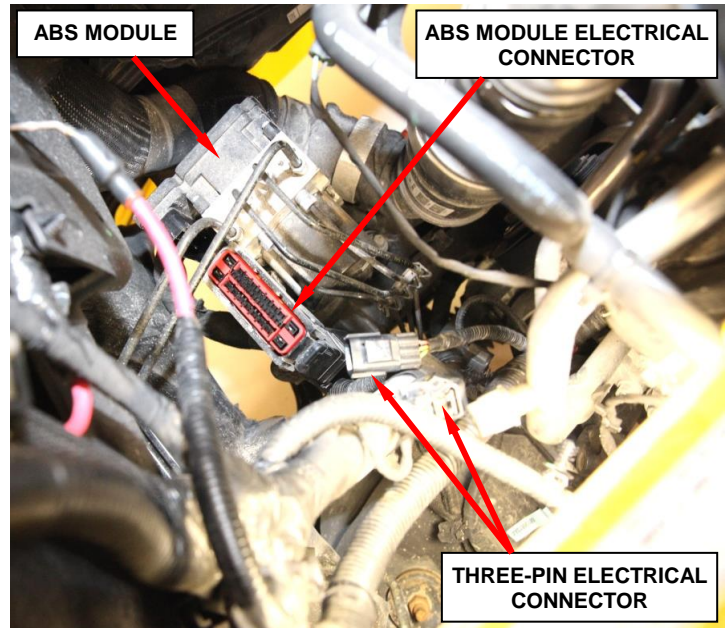

Figure 5 – ABS Connector
8. Disconnect the wire harness three-pin electrical connector (Figure 5).
10. Disconnect the Anti-Lock Brake System (ABS) control module electrical connector (Figure 5).
51. Connect the Anti-Lock Brake (ABS) control module electrical connector (Figure 5).
53. Connect the wire harness three-pin electrical connector (Figure 5).